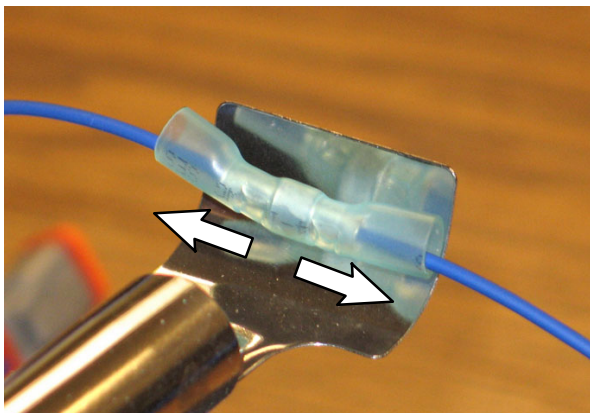

FIG. 2
7. Use a torch to slowly melt the sealed butt connector (2) solder/protective wrap onto the wires crimped inside the connector. Start from the center of the sealed butt connector and work out to the ends when heating the connector connections. Slowly keep heat moving. Continue heating connector/ connections and until the solder is melted around the wire connections and the wrap is completely sealed around both wires. (Fig. 2)